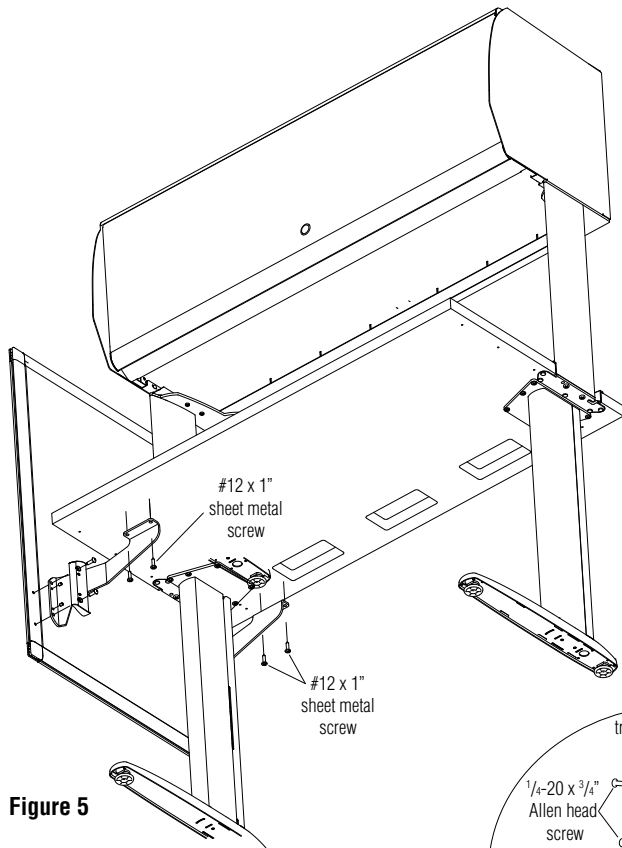

Figure 5
**END (B) Screen**
6. Attach the screen and bracket assembly to the table using four #12 x 1" sheet metal screws. See Figure 5).
**STR (A), CLH (C) & CRH (D)